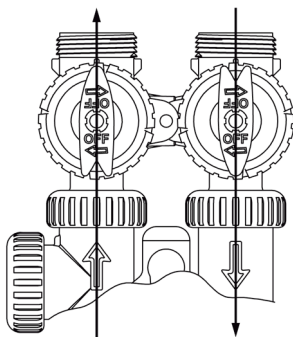

Figure 14:
2. Bypass Position: The inlet and outlet handles point to the center of the bypass, the control valve is isolated from the water pressure contained in the plumbing system. Untreated water is supplied to the plumbing system. (See Figure 14)